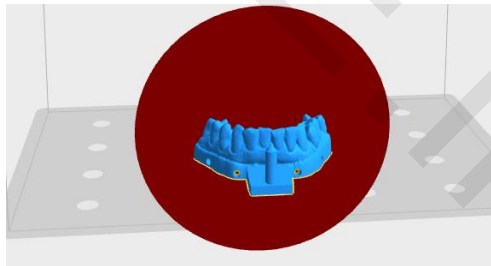

Figure 20 Y plane cutting interface
③ Y Plane: As shown in Figure 20.